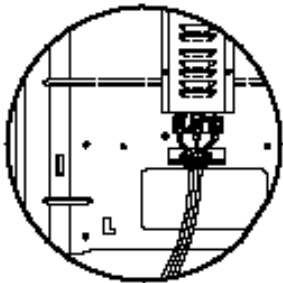
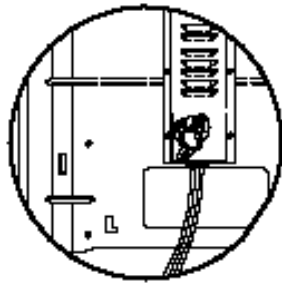

Fig. 12A
Fig. 12B
- Remove the junction block access cover (on range back). See Fig. 12A or 12B. **SOME MODELS** will have a one-piece wire cover shown in Fig. 12B. When re-installing one-piece wire cover, make sure that wire does not become pinched between wire cover and mainback.